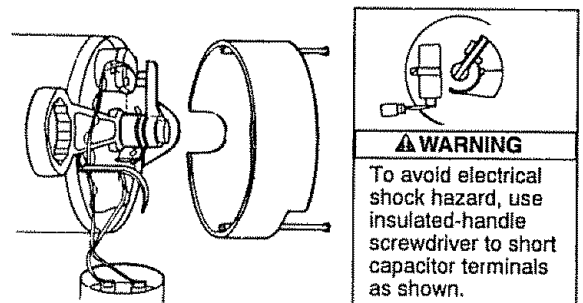

Figure 20 - Hold Shaft
2. If impeller must be replaced, loosen two machine screws and remove motor canopy (see Figure 20).
3. **⚠ WARNING** Capacitor voltage may be hazardous. To discharge capacitor, hold insulated handle screwdriver **BY THE HANDLE** and short capacitor terminals together (see Figure 20). Do not touch metal screwdriver blade or capacitor terminals. If in doubt, consult a qualified electrician.